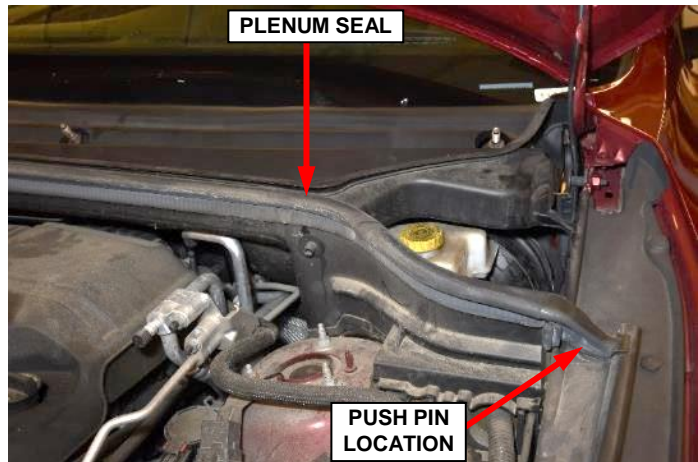

Figure 4 – Plenum Seal
5. Release the push pins, one on each end of the plenum seal (Figure 4).
6. Remove and save the plenum seal (Figure 4).